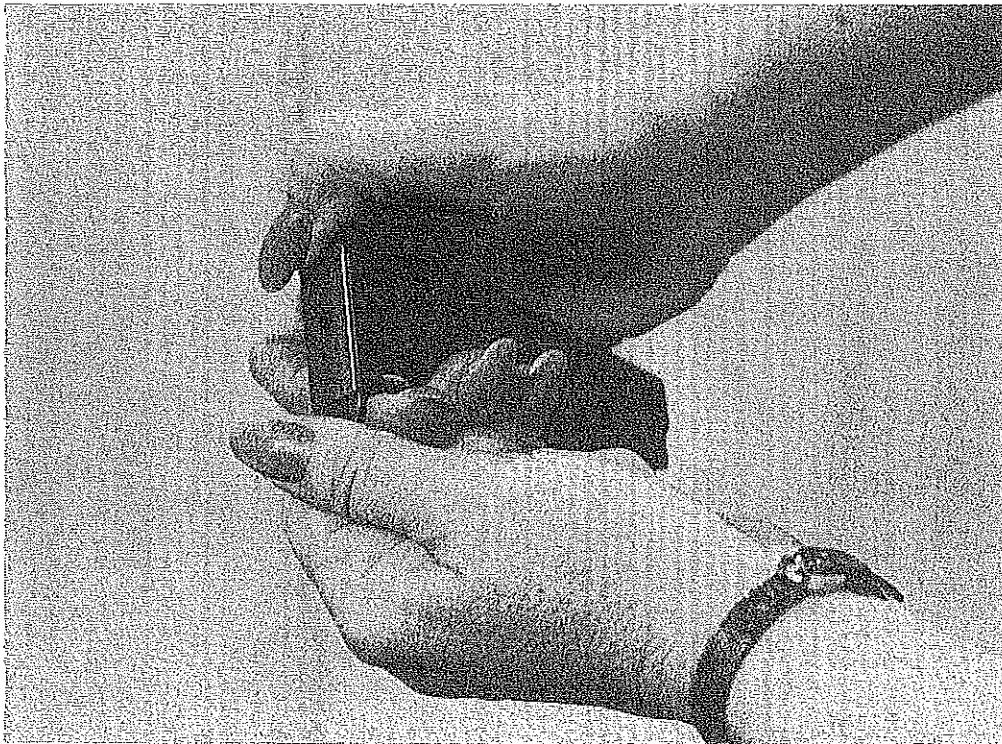

FIGURE 13
3. Slide the floor plate off the magazine while covering the bottom of the magazine with your thumb. This will prevent the magazine spring and insert from jumping out of the magazine. (Figure 13)